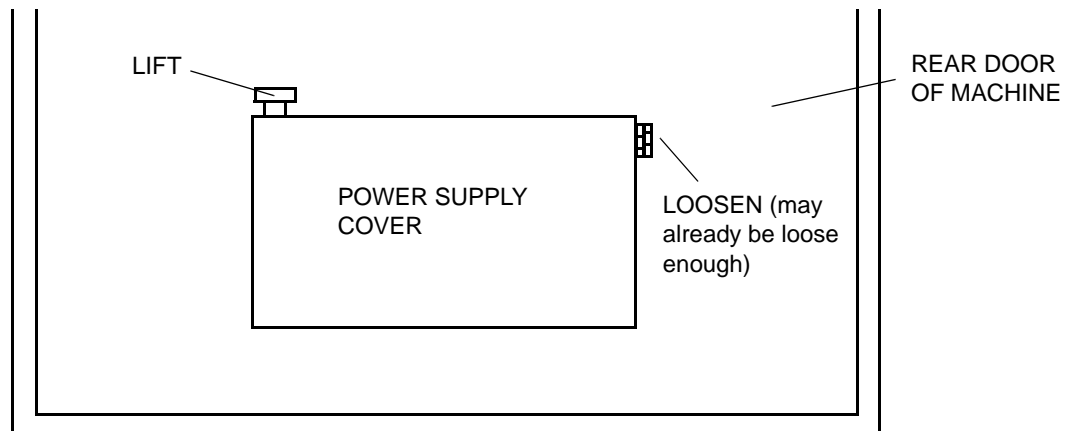

Figure 7-2. Accessing the Power Supply
2. Open the rear panel of the machine. Loosen the mechanisms that secure the power supply cover to the rear door (see Figure 7-2) and open the power supply.